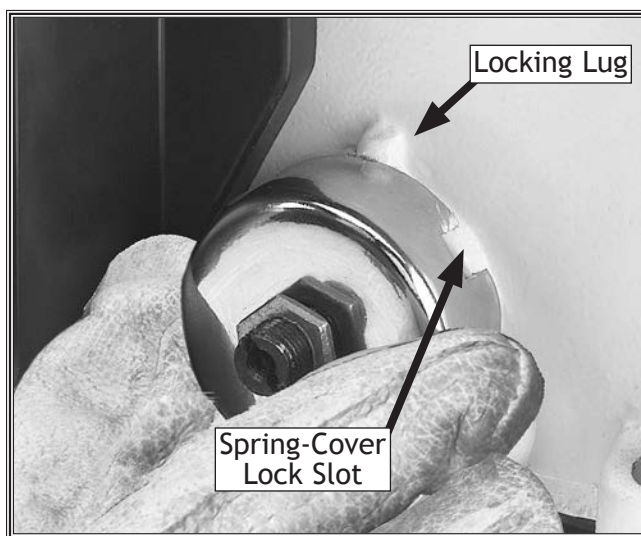

Figure 23. Typical spring cover lock slot and locking lug.
5. Pull the cover outward just enough to disengage the spring-cover lock slot from the locking lug (see **Figure 23**).
6. Rotate the cover counterclockwise to increase spring tension, or let the cover slowly unwind in the clockwise direction to reduce spring tension (see **Figure 23**).